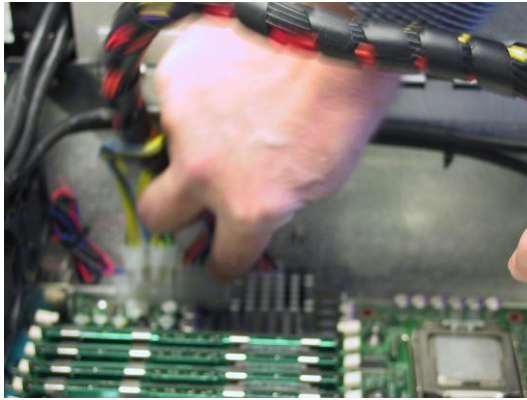

Figure 4-92
- 4) Disconnect the ATX 24-pin power connector from the motherboard. Pull the connector up while using a flat-blade screwdriver to push the top of the release catch (facing the bottom of the chassis) into the body of the connector (Figures 4-92 and 4-93).